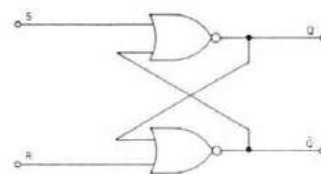

Fig. 4. NOR gated flip flop.
The R-S latch can also be made using NOR gates (Fig. 4). In this case the inputs are held low (0) and driven high (1) to start the flip flop function. It's just the opposite of the NAND gate flip flop, where inputs are held high (1) and driven low (0) to activate.